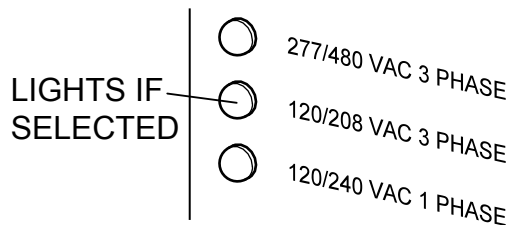

Figure 20. Voltage Status LEDs
2. Place the voltage selector switch (Figure 19) in the desired voltage setting position. The corresponding Voltage Status LED on the control panel will light to indicate the selected voltage (Figure 20).